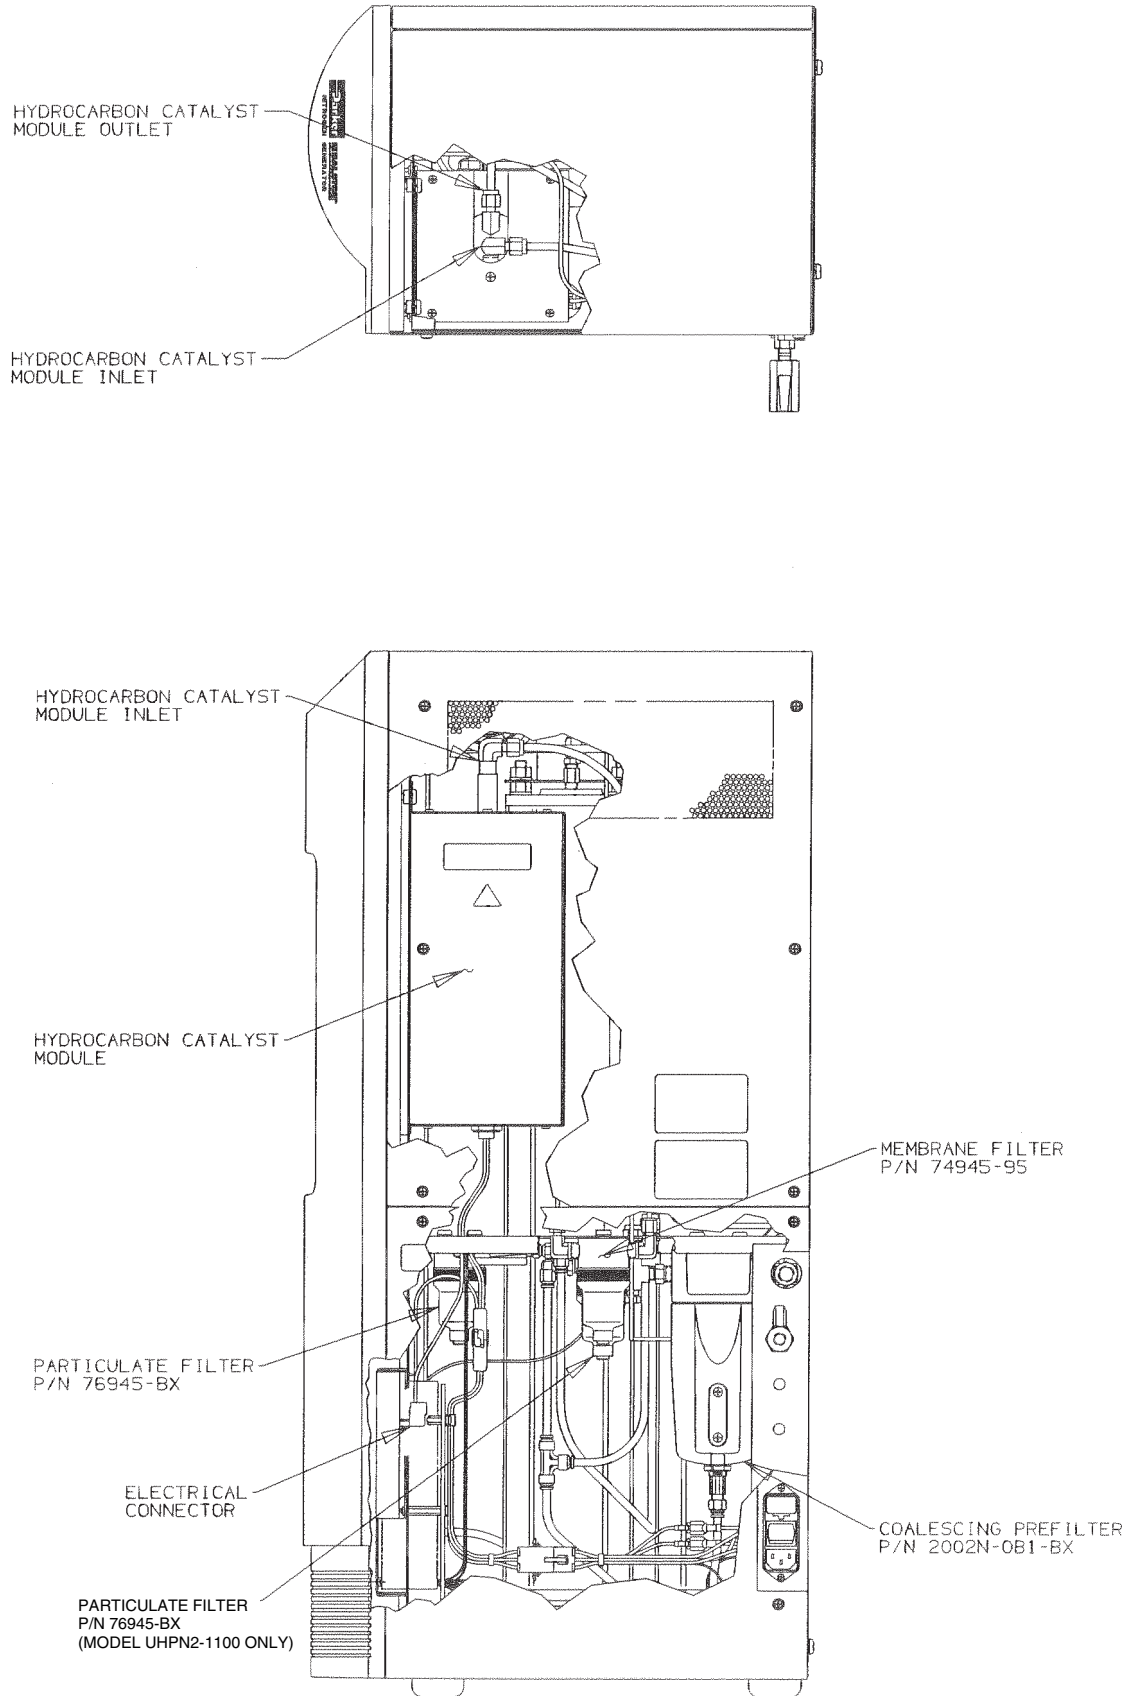

Figure 6 - Maintenance Items
The primary maintenance tasks required by the Parker Balston UHP Nitrogen Generator are changing the filter cartridges in the coalescing prefilter and particulate filters (annually), replacing the final membrane filter cartridge (annually), and replacing the hydrocarbon catalyst module (Model UHPN2-1100 only, 3 years). A summary of the replacement part numbers and recommended service frequency is shown at the end of this Maintenance section. See Figure 6 for the locations of the various maintenance items.
The coalescing and particulate filters and the final membrane filter in the UHP Nitrogen Generator are easily accessible when the lower service panel is removed (see Figure 6). These filters should be changed on an annual basis to maintain efficient operation of the system. The filter cartridge in the coalescing prefilter assembly is removed by loosening the bowl from the filter assembly, and unscrewing the element retainer from the base of the cartridge. Insert the new filter cartridge (P/N 100-12-BXE) and reassemble the housing in the reverse order.
- 3 Remove the upper and lower service panels from the UHPN2-1100 (4 Phillips screws) and disconnect the electrical fittings to the hydrocarbon catalyst module at the connectors (see Figure 6).
- 4 Disconnect the two tubing connections to the hydrocarbon catalyst module (see Figure 6) using the wrenches (one as an anchor).